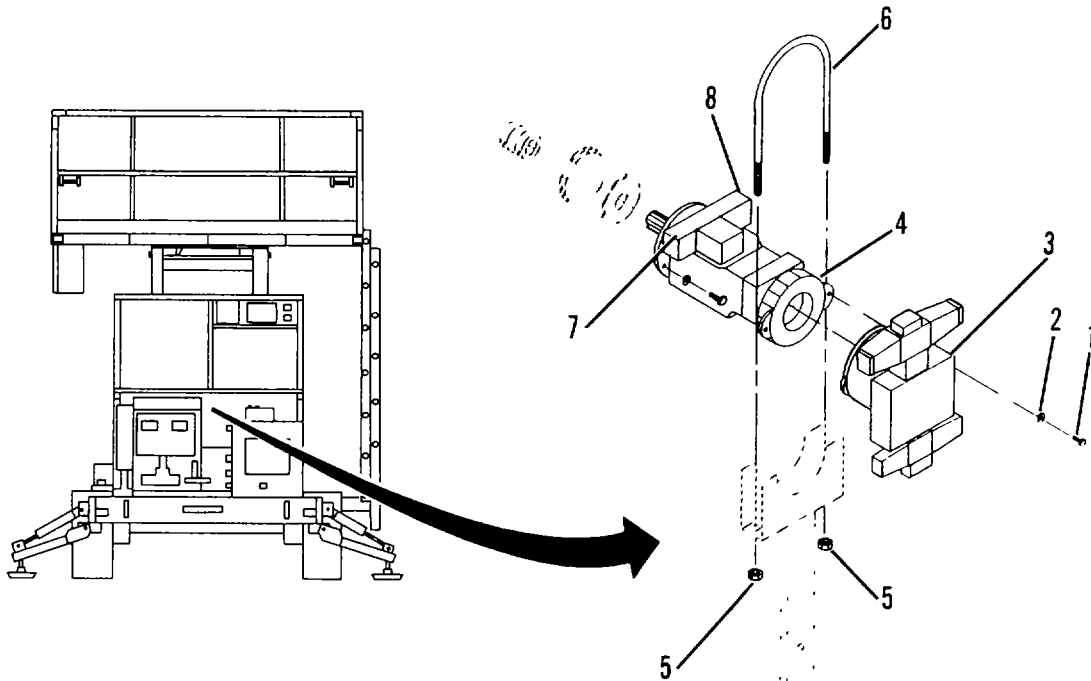

Figure 4-21 . Transmission Mounting (Sheet 1 of 2) .
- (2) Remove two capscrews (1, Figure 4-21) and washers (2) securing hydraulic pump manifold block assembly (3) to transmission (4).
- (3) Carefully lay manifold block assembly (3) to one side.
- (4) Remove nuts (5) from u-bolt (6). Remove u-bolt (6).
- (5) Tag seven hydraulic hoses to transmission for ease of identification during installation.
- (6) Remove seven hydraulic hoses from transmission. Plug hoses and ports to prevent foreign matter from entering the system.
- (7) Tag the two transmission control solenoid connections (7 and 8) and remove screws securing the connectors.